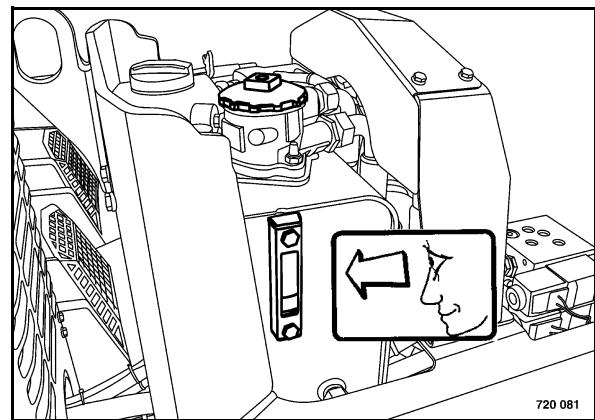

Fig. 90
- Check the hydraulic oil level in the inspection glass (Fig. 90).